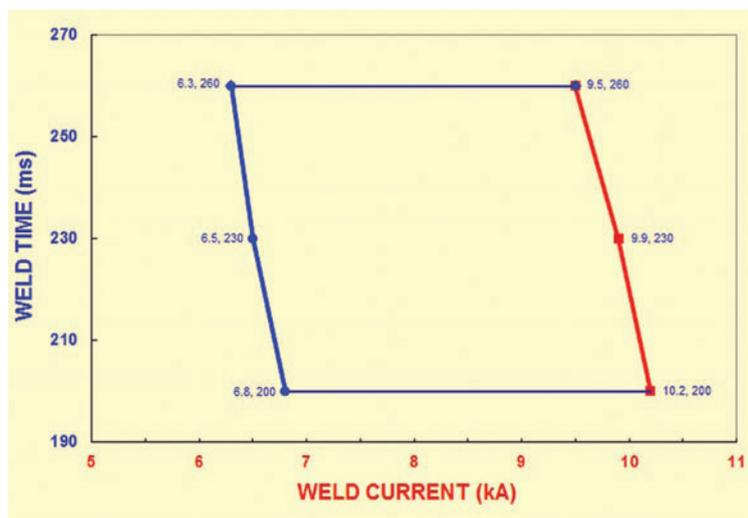

Fig. 1 — A resistance spot weld lobe.
- **Weld Range/Lobe.** A weld lobe is a means of graphically expressing the numerous combinations of weld current and weld time that produce satisfactory welds for a specific set of conditions (weld force, electrode cap configuration, metal stack-up, etc.) (see Fig. 1 and the March 2012 RWMA Q&A for more details on weld lobes).